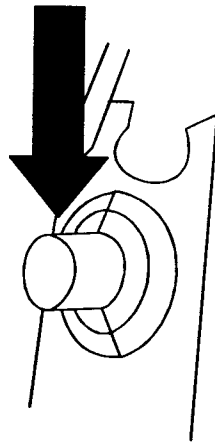

Fig. 31
2. Dislodge the upper portion of the vertical water tube from the plastic knob on the back of the tube by pressing down on the nozzle. (Fig. 31)